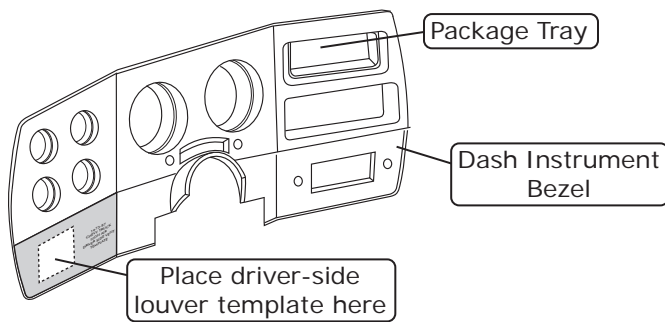

Figure 1
1. Using the driver side louver template provided on Page 30, mark and cut the instrument panel bezel as shown in Figure 1, below.